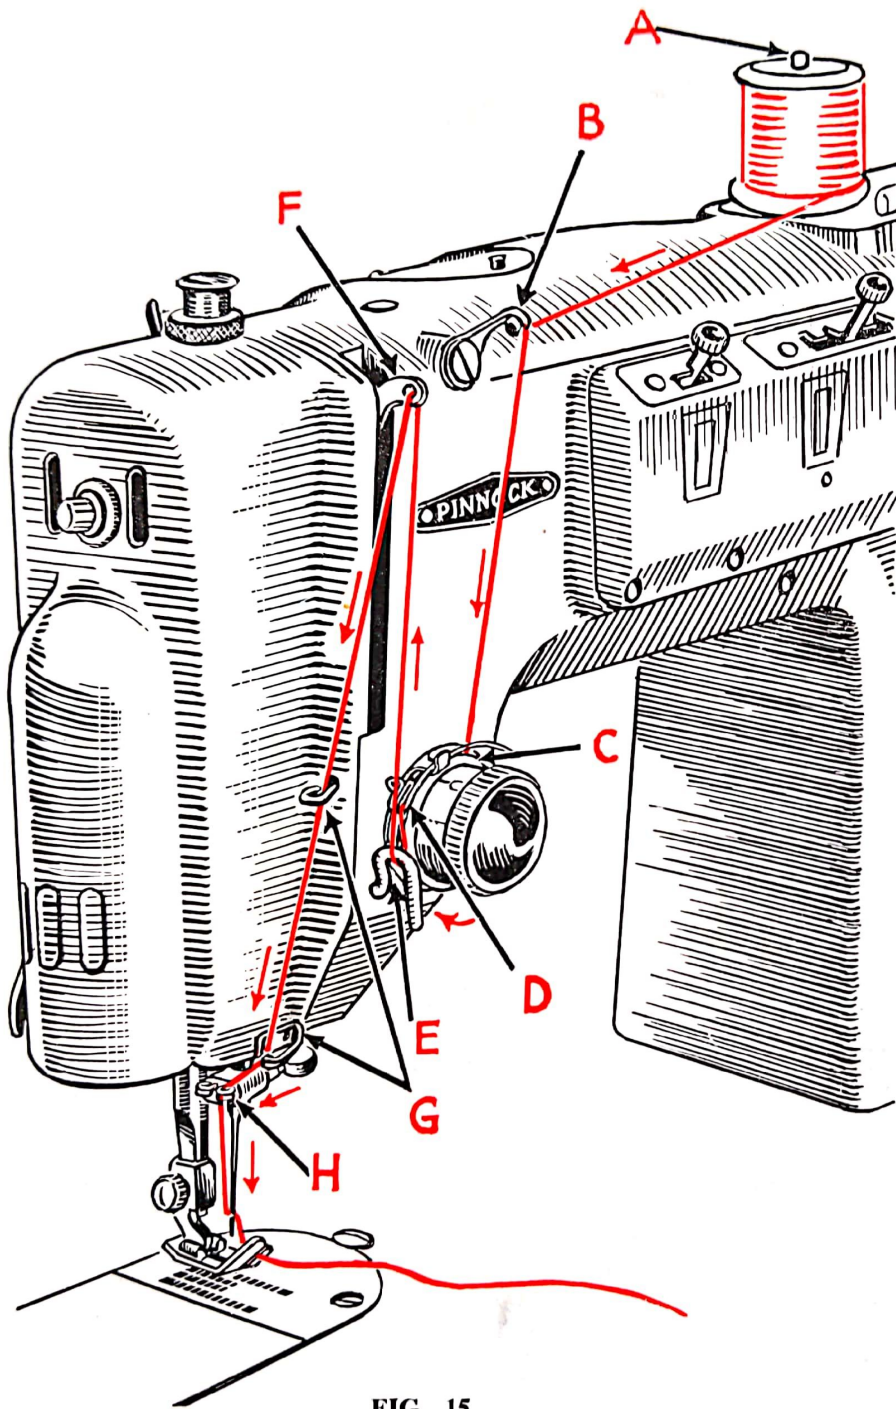

FIG. 15
1. Continue to turn the balance wheel until the take-up lever F (Fig. 15) has reached its highest point.